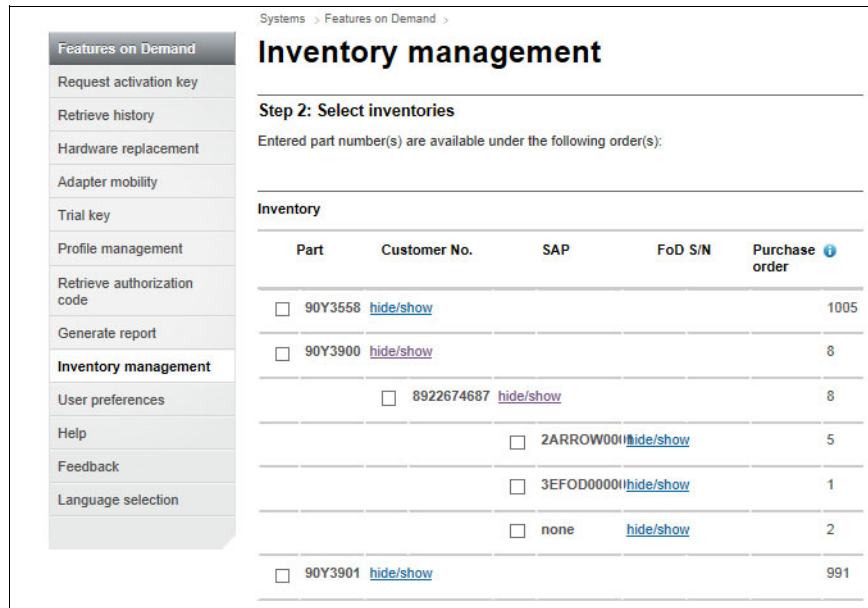

Figure 2-7 FoD inventory selection
2. Select as many FoD keys as needed for your client, as shown in Figure 2-7.